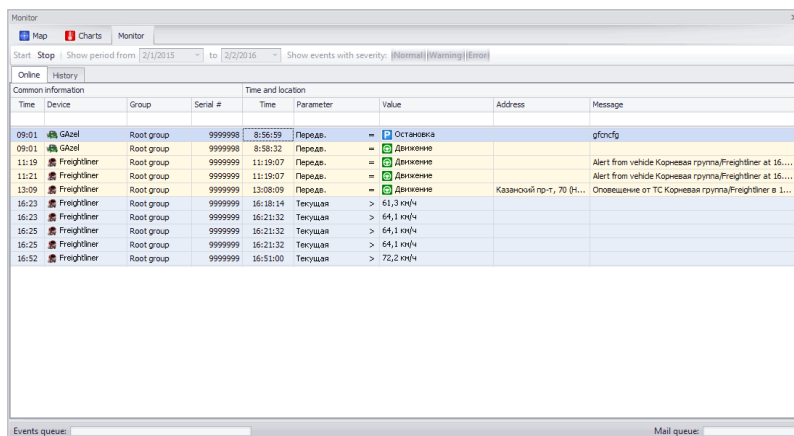

Fig. 172. The "Online" tab.
- If recording to the log is enabled in the rule settings, then an entry about the respective event will be made in Monitor module. All Monitor module events are recorded to SQLite base with binding to the current scheme. The events recorded during the current session in AutoGRAPH 5 PRO are displayed on the Monitor module “Online” tab (**Fig. 172**).